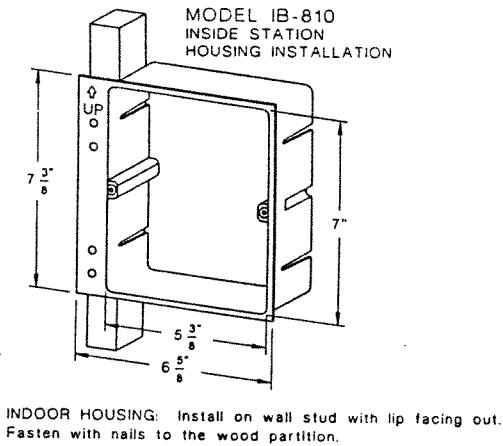

FIGURE 1a
- C) Do not install two stations back to back in the same wall partition as this may cause feedback(see figure 1a)